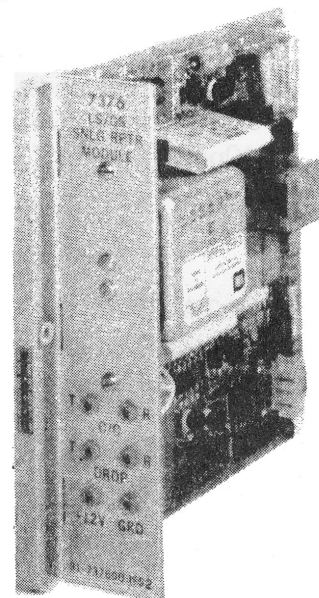

Figure 1. 7376 Loop Start/Ground Start Signaling Repeater
1.02 The 7376 Loop Start/Ground Start Signaling Repeater (Figure 1) is a plug-in, printed circuit module used to increase the effective signaling, supervisory, and dial pulsing range of an individual 2-wire line or PBX trunk. The 7376 operates in either the loop-start or ground-start mode, and is available with (when ordered as 7376-01) or without (when ordered as 7376-00) pulse correction.